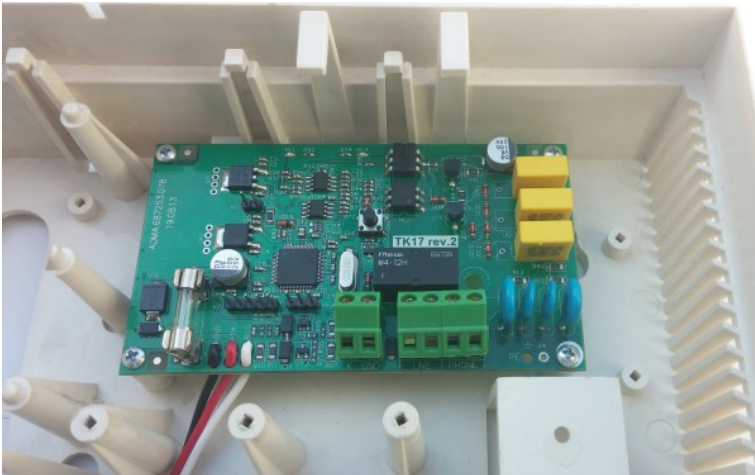

Figure 30. “TK-17” communicator installation
2. Place the communicator into the housing (Figure 30) and connect with the Control Panel board according to the diagram in “TK-17 phone communicator. Installation Guide” available at [www.ortus.io](http://www.ortus.io);